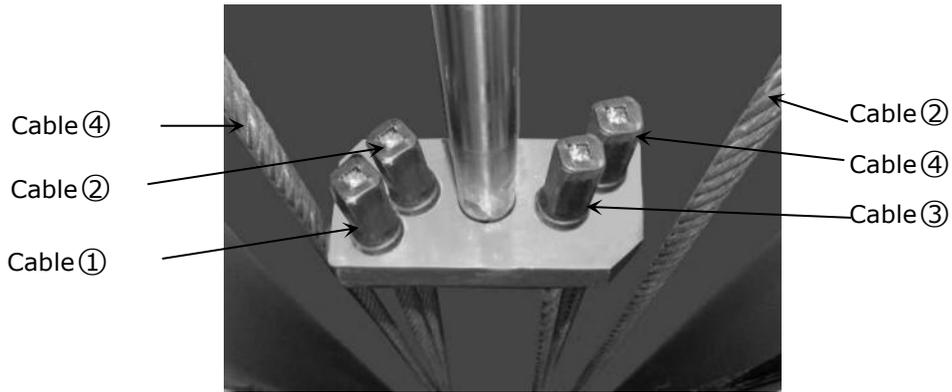

Fig.30
7. Illustration for platform cables (See Fig. 30, 31, 32).